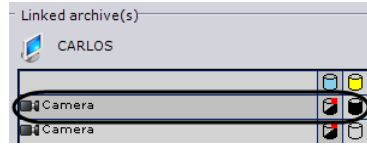

Fig. 6.6—8 Configuring recording of the video stream from a camera to several archives
- Repeat steps 1-6 to configure recording of the video stream from a camera to all desired archives (Fig. 6.6—8).